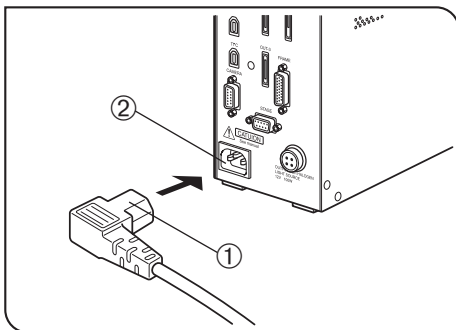

Fig. 9
Connecting to the BX3-CBH (Fig. 9)
1. Insert the connector ① of the power cord firmly into the input connector ② of the BX3-CBH (Fig. 9).